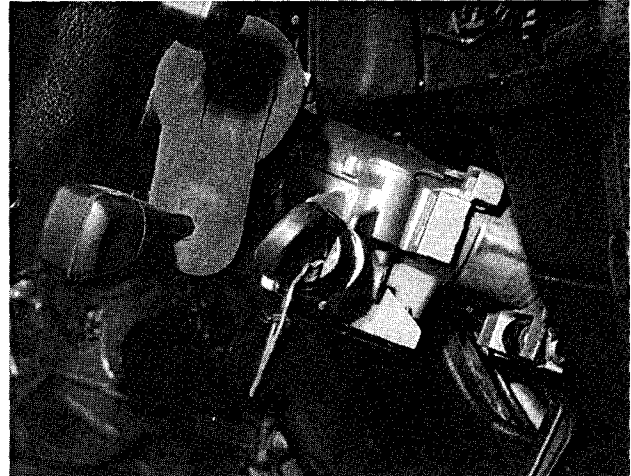

Fig. 8. With ignition key in “radio” position, insert stiff wire into lock opening to release cylinder.
2. Insert a thin piece of stiff wire into opening in lock cylinder and pull lock cylinder out. See Fig. 8.